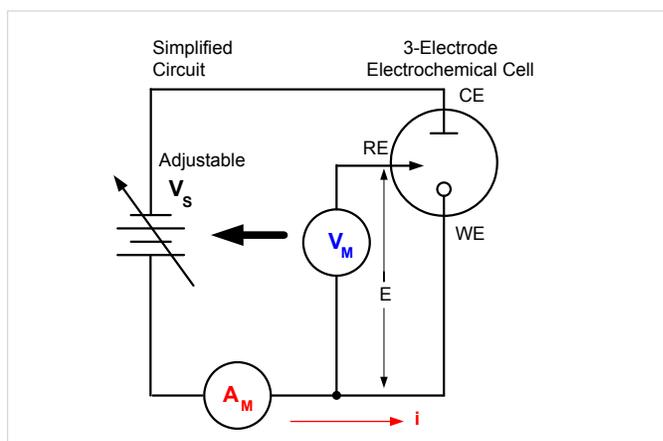

Figure 1. Simplified measurement circuit for performing cyclic voltammetry.
Cyclic voltammetry (CV), a type of potential sweep method, is the most commonly used electrochemical measurement technique, which typically uses a 3-electrode cell. **Figure 1** illustrates a typical electrochemical measurement circuit made up of an electrochemical cell, an adjustable voltage source (V_s), an ammeter (A_M), and a voltmeter (V_M). The three electrodes of the electrochemical cell are the working electrode (WE), the reference electrode (RE), and the counter electrode (CE). The voltage source (V_s) for the potential scan is applied between the WE and CE. The potential (E) between the RE and WE is measured with the voltmeter, and the overall voltage (V_s) is adjusted to maintain the desired potential at the WE with respect to the RE. The resulting current (i) flowing to or from the WE is measured with the ammeter (A_M).